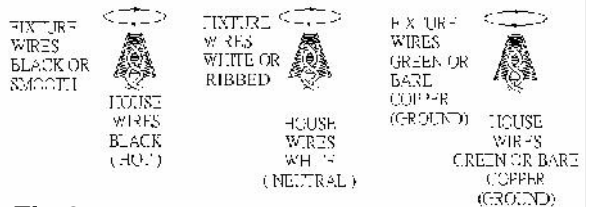

Fig.3
CONNECTING THE WIRES (FIG. 3)
1. At this point, connect the electrical wires as shown in figure 3, making sure that all wire connectors are secured. If your outlet box has a ground wire (green or bare copper), connect the fixture's ground wire to it. Otherwise, connect the fixture's ground wire directly to the cross bar using the green screw provided.
2. Tuck these wires connectors neatly into the ceiling outlet box and raise the collar ring (Y) and thread onto collar loop (T) protruding through canopy.